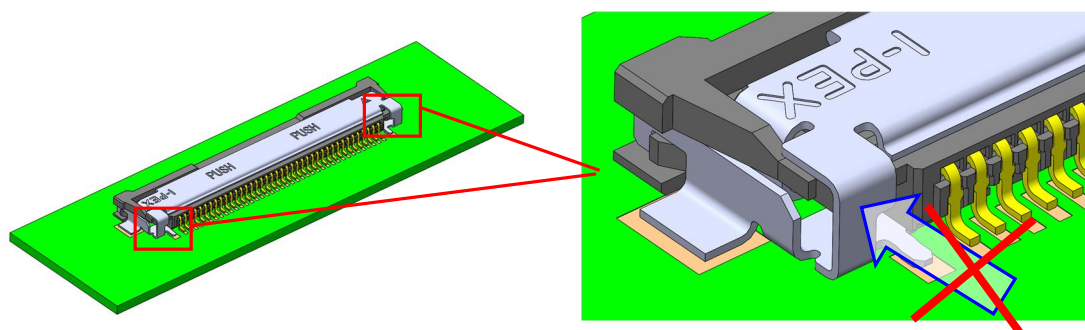

Fig.4-7 Connector Handling Method - Incorrect Example
- ④ Do not apply excessive force to the back surface of shell as shown in Fig.4-7.